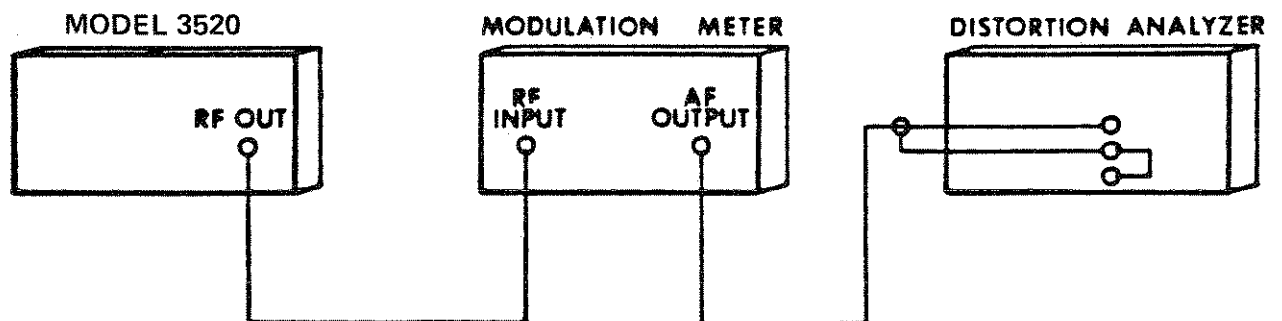

Figure 4-2. Set-up for Distortion Tests
2. Connect the equipment as shown in Figure 4-2.